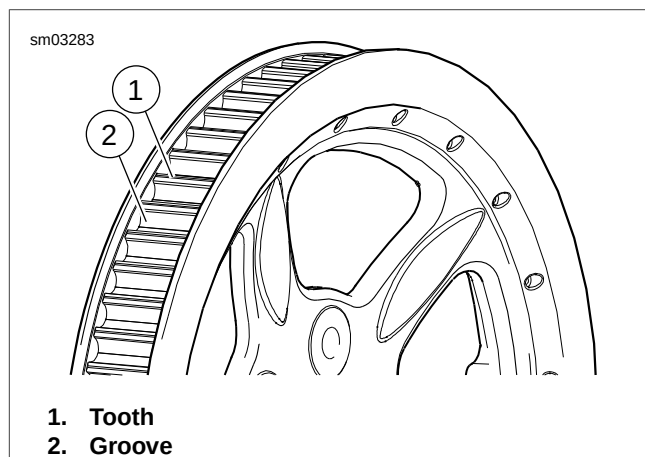

Figure 1-50. Rear Sprocket
1. See Figure 1-50. Inspect each tooth (1) of rear sprocket for:
2. To check if chrome plating has worn off, drag a scribe or sharp knife point across the bottom of a groove (2) (between two teeth) with medium pressure.